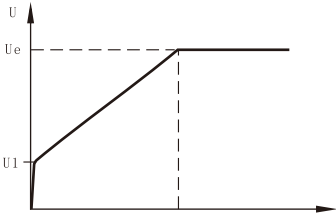

Figure 12-2-1
- a) The soft starter will be under voltage starting mode when code F9 is set to 1 (voltage). Figure 12-2-1 shows the output voltage wave of the output ramp starting.  $U_1$  is the starting voltage value at start, when the motor starts, if the current of the motor is within the range of the rated value 400%, the output voltage of the soft starter will increase to  $U_1$  rapidly, then the starting parameter set according to the output voltage will rise gradually, and the motor will accelerate smoothly with the rising of the voltage and reach the rated rotation speed when the voltage reaches the rated voltage  $U_e$ , then the bypass contactor will close and the whole starting process completes.